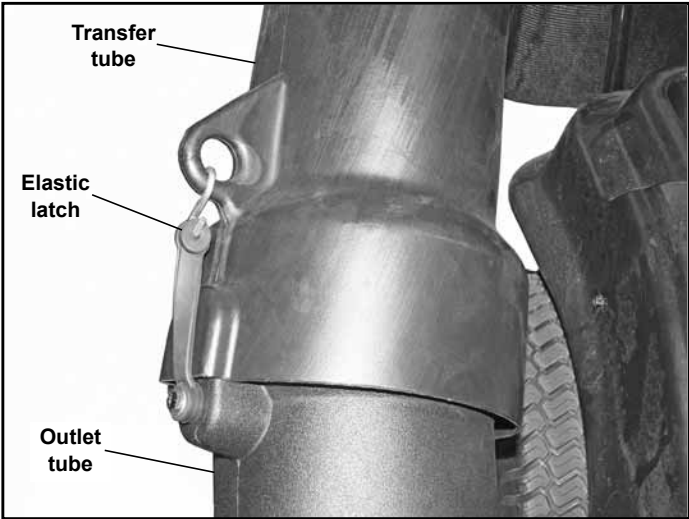
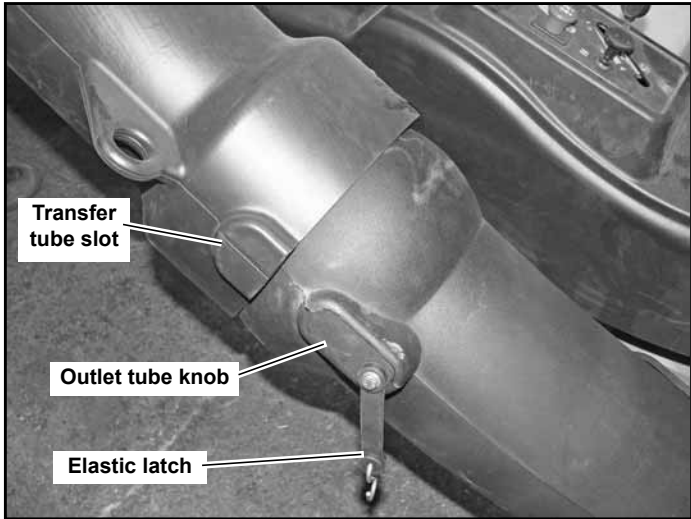

Figure 3-19
Figure 3-18
23. Attach the transfer tube to the outlet tube by aligning the slot on the transfer tube with the knob on the outlet tube and hooking the elastic latch through the loop of the transfer tube. Figure 3-18 & Figure 3-19